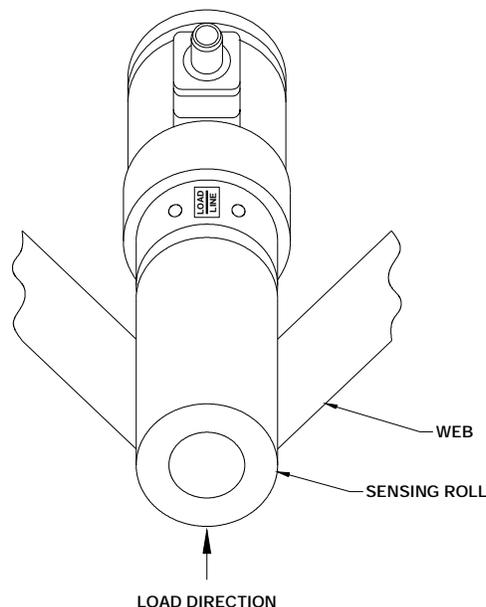

Figure 5 –Transducer load direction Diagram.
Stud (S)	Before tightening the mounting bolt, rotate the transducer body until the force direction (indicated by the LOAD LINE on the label) is aligned with the vector of the web force. The vector of the web force is the bisector of the wrap angle. Refer to Figure 4 and Figure 5.
Pillow Block and Bearing Replacement (PB, BR)	<ol style="list-style-type: none"> <li>Loosely mount the transducer by lightly tightening the four (4) socket head cap screws that hold the lock plate to the back of the transducer.</li> <li>Rotate the body of the transducer until the direction of the force (indicated by the LOAD LINE on the label) is aligned with the vector of the web force. Refer to Figure 4 and Figure 5.</li> <li>Tighten the four (4) socket head cap screws to securely clamp the transducer in position.</li> </ol>
Flange (F)	<ol style="list-style-type: none"> <li>Before drilling the four (4) mounting holes, contemplate the orientation of the transducer taking into consideration the location of the mounting screws. Be sure that the screws do not interfere with the position of the connector. An optimal location for mounting holes also lets you maximize rotational alignment range.           <div data-bbox="467 957 537 1024" style="display: inline-block; vertical-align: middle;">  </div> <div data-bbox="565 961 1511 1016" style="display: inline-block; vertical-align: middle; border: 1px solid black; padding: 2px;">             Do not use the flange assembly as a drill template while not mounted to the transducer. The spacing between flange halves is different when the transducer body is added.           </div> </li> <li>Adjust the alignment of the transducer. First, be sure that the four (4) flange bolts are loose and then, loosen the two (2) bolts that draw the flange halves together.</li> <li>Rotate the body of the transducer until the direction of the force, indicated by the LOAD LINE on the label, is aligned with the vector of the web force. Refer to Figure 4 and Figure 5.</li> <li>Secure the flange to the transducer. Tighten the two (2) socket head cap screws that draw the flange halves together.</li> <li>Tighten the four (4) bolts that draw the flange to the mounting surface.</li> </ol>